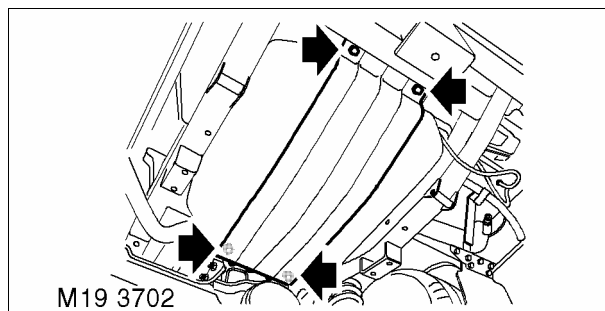

Fig. 8
- 12 Remove back two bolts and nut plates securing fuel tank cradle. Fig. 8.